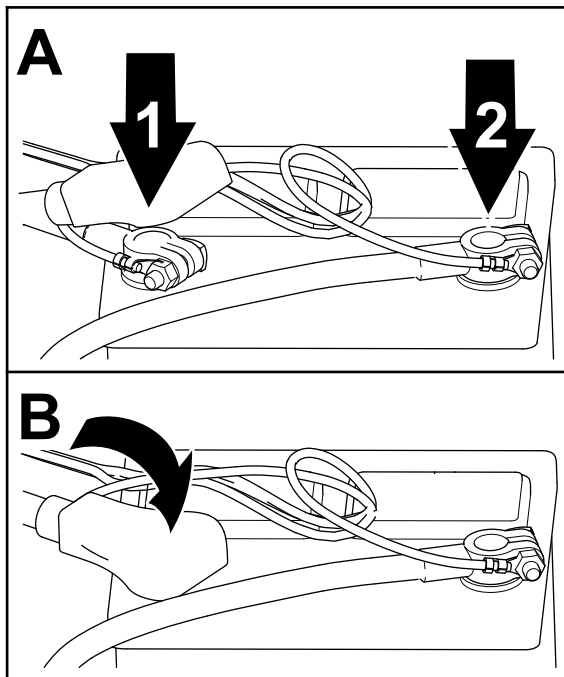

Figure 21
1. Assemble the negative battery cable onto the negative battery post (Figure 21).
3. Assemble the positive battery cable onto the positive battery post (Figure 21).
5. Assemble the insulator over the positive battery post (Figure 21).